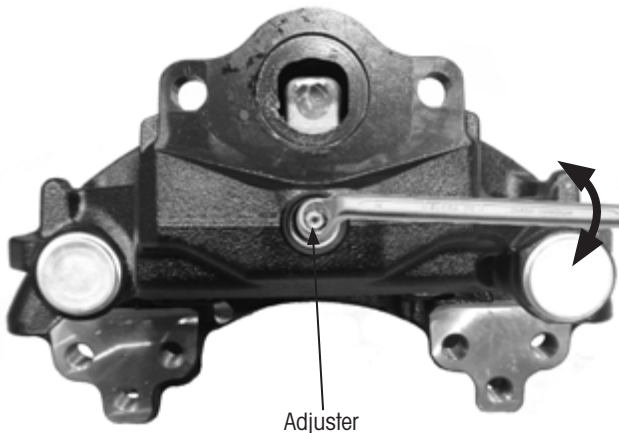

Figure 30: Checking adjuster movement
2. Use the 8 mm deep offset box end wrench to **turn** the adjuster clockwise towards the brake rotor (Figure 30). **Check** for ease of movement when doing this.